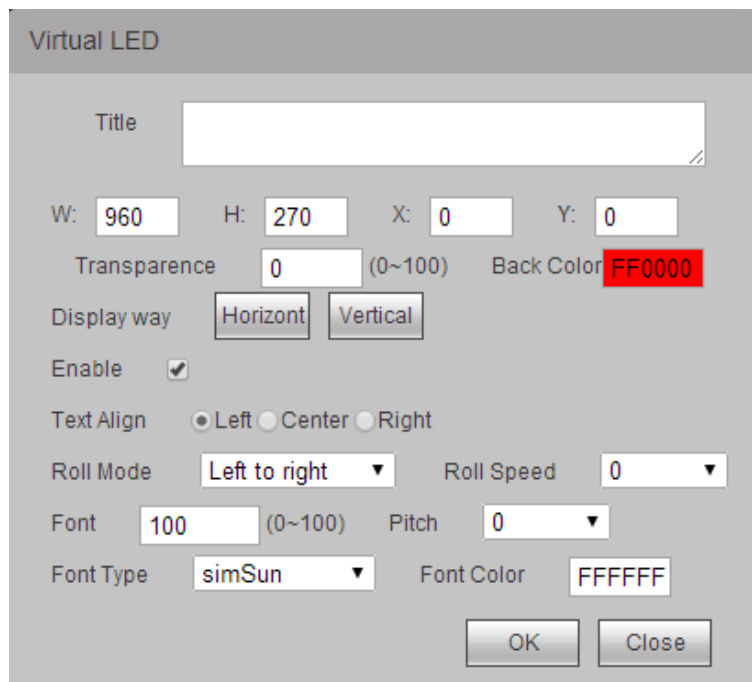

Figure 4-22
Step 2 Click . The system displays "Virtual LED" interface, as shown in Figure 4-22.